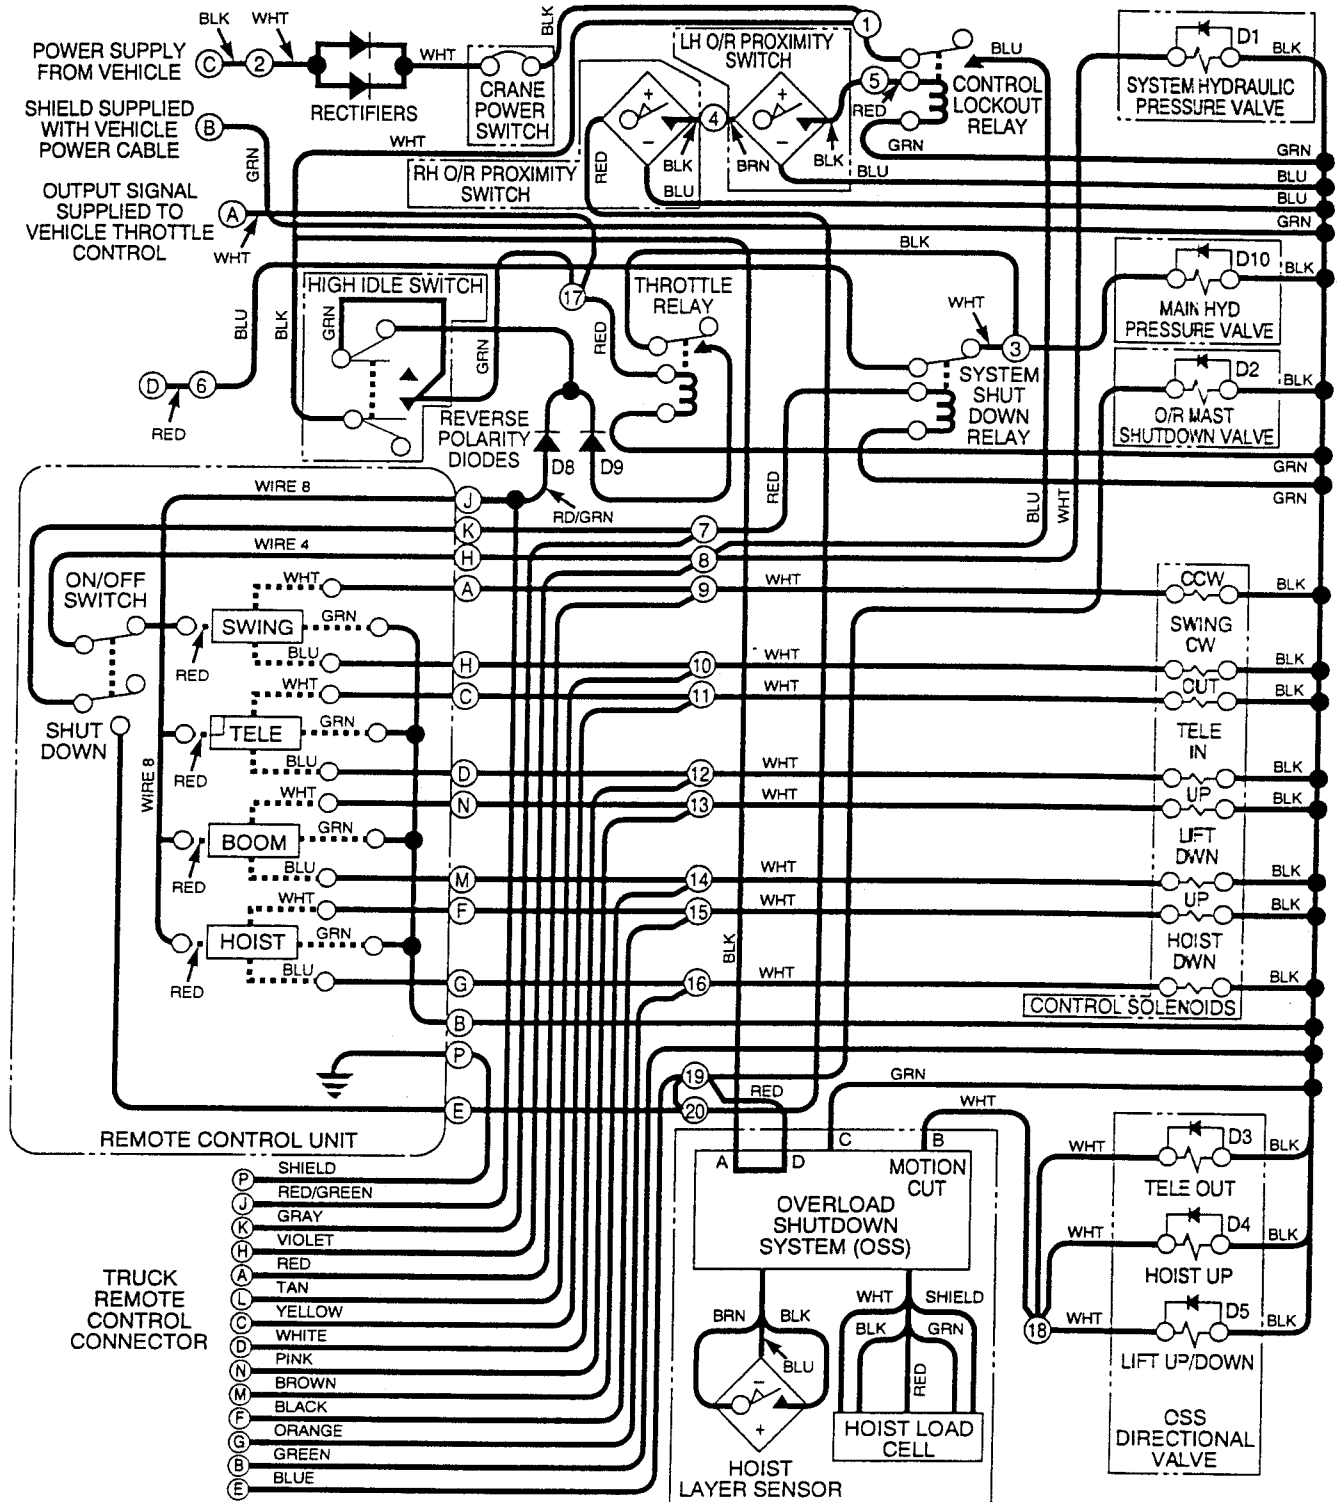

Figure 2-58. Crane Wiring Schematic
This paragraph covers Crane System Troubleshooting. The Crane System Fault Index, Table 2-54, lists faults for the crane system of the PLS truck. Refer to the schematics Figures 2-58 through 2-64 when performing tests and corrective actions
- (1) Disconnect remote control cable from truck remote control connector (TM 9-2320-364-10).
- (2) Turn ON ENGINE switch.
- (3) Put WINCH/CRANE switch in CRANE position.
- (4) Put hydraulic selector switch in CRANE/SRW position.
- (5) Turn ON crane POWER switch.
- (6) Connect positive (+) multimeter lead to terminal H of LH or RH remote control connector outlet.
- (7) Connect negative (-) multimeter lead to a known good ground.
- (a) If 22 to 28 vdc are not present, perform Step (8) below and repair violet wire (see schematic Fig 2-58) or notify DS Maintenance.
- (b) If 22 to 28 are vdc present, perform Step (8) below and go to Step 2 of this Fault.
- (8) Put the following switches in the OFF position: crane POWER switch, hydraulic selector switch and ENGINE switch.
- (1) If there is no continuity, repair green wire between hookup and ground terminal strip in crane junction box (see schematic Fig 2-58) or notify DS Maintenance.
- (2) If there is continuity, wire is OK.
- (1) Remove Boom controller and ON/OFF EMERGENCY STOP switch from remote control unit, but do not disconnect wires (Para 18-4).
- (2) Set multimeter select switch to volts.
- (3) Connect positive (+) multimeter lead to terminal 4 on ON/OFF EMERGENCY STOP switch.
- (4) Connect negative (-) multimeter lead to a known good ground.
- (5) Turn ON ENGINE switch (TM 9-2320-364-10).
- (6) Put hydraulic selector switch in CRANE/SRW position.
- (7) Turn ON crane POWER switch.
- (a) If 22 to 28 vdc are not present, perform Step (8) below and repair wire 4 from remote control unit hookup terminal H to ON/OFF EMERGENCY STOP switch (see schematic Fig 2-58) or notify DS Maintenance.
- (b) If 22 -28 vdc are present, perform Step (8) below and go to Step 5 of this Fault.
- (8) Put following switches in OFF position: crane POWER switch, hydraulic selector switch and ENGINE switch.